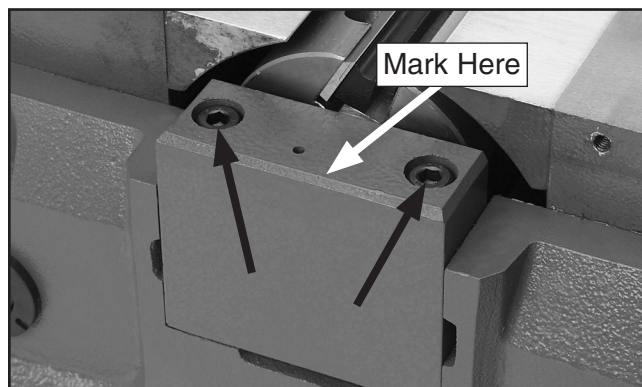

Figure 4. Location to remove cap screws and lock washers on front bearing block.
8. Remove the cap screws and lock washers that secure both bearing blocks, as shown in **Figure 4**.
9. Mark the side of the front bearing block that faces the front of the machine (**Figure 4**) with tape or a felt marker, to make it easier to reinstall the bearing blocks later.